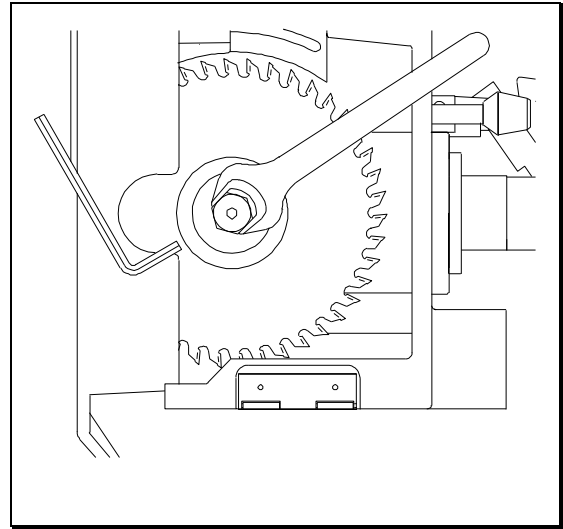

Figure 20
- 4 Loosen nut with flat key SW 30 (Figure 20).